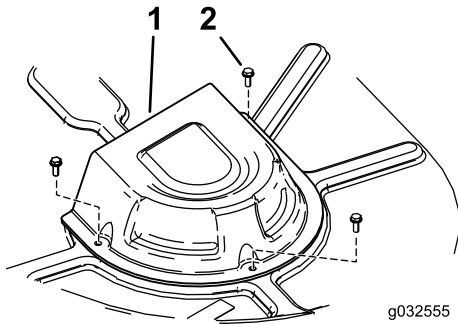

Figure 53
4. Remove the pulley covers (Figure 53).